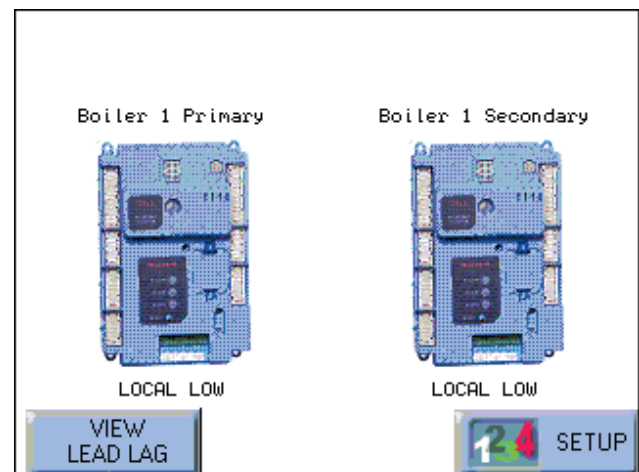

Fig. 57 – Home Screen
1. From the Home screen, press the View Lead Lag button. See Fig. 57.